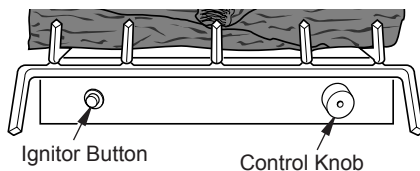

Figure 19 - Control Knob and Ignitor Button Location
4. Wait five (5) minutes to clear out any gas. Then smell for gas, including near the floor. If you smell gas, STOP! Follow B in the safety information, page 17. If you don't smell gas, go to the next step.
5. Turn control knob counterclockwise  to the PILOT position. Press in control knob for five (5) seconds (see Figure 19).